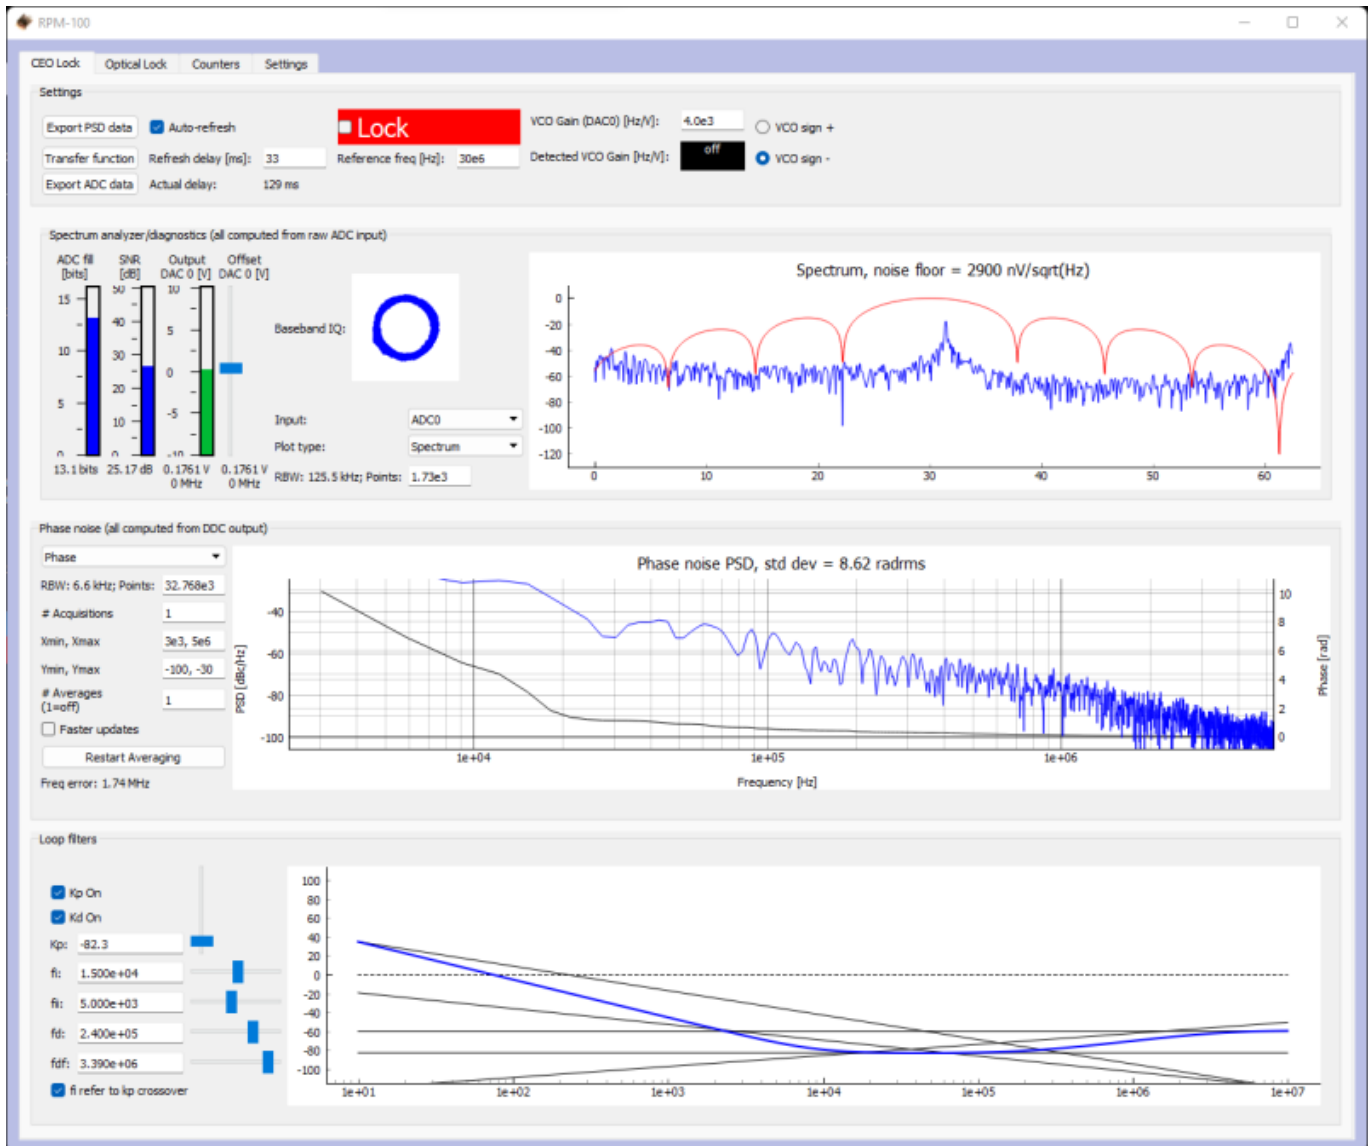

Fig. 9: Centering $f(\text{CEO})$ on reference frequency (Baseband IQ optimization)
1. Navigate to the “CEO Lock” tab and enable the “Auto-refresh” button in the top left of the window. Set your desired RF lock frequency of the Fceo beatnote in the “Reference Frequency [Hz]” input. Adjust the “Offset DAC 0” slider near the top left by clicking and dragging the slider until the Beatnote is roughly centered in the red filter trace (figure 9). It is also possible to adjust the FFC-100 oscillator current on its front panel to make this adjustment.